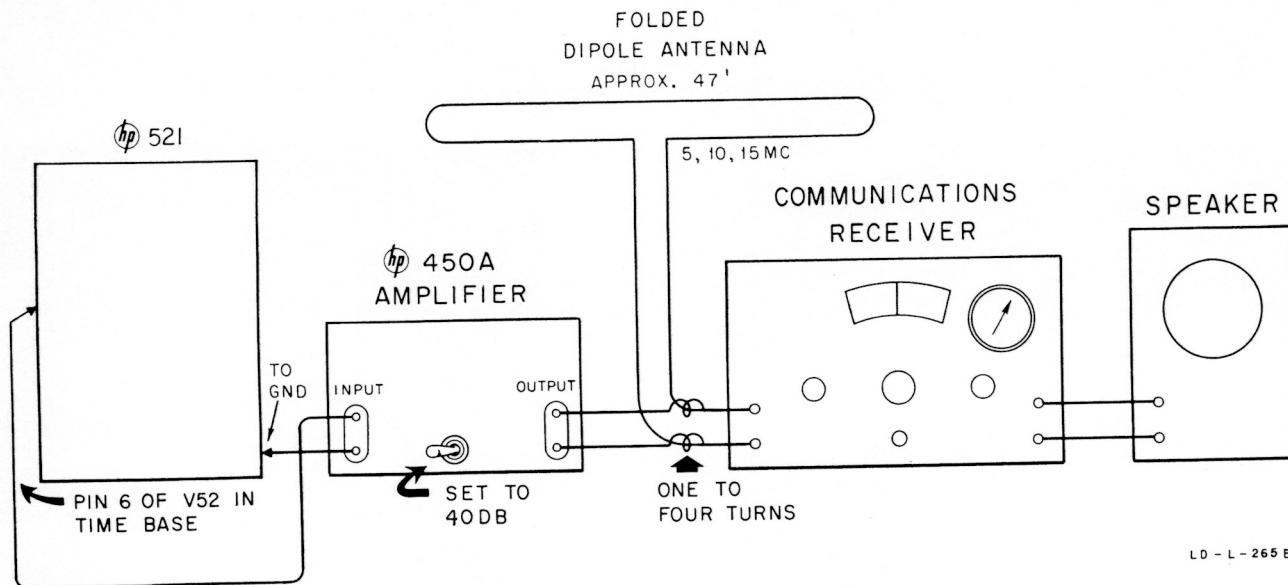

Figure 4-3. Equipment Setup for Setting Crystal Time Base Oscillator Against WWV
- 1) Remove instrument cabinet and connect equipment as shown in Figure 4-3.